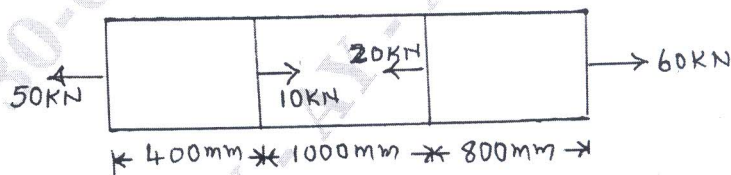

Fig.Q.1(c)
- c. A bar of uniform cross-section 20mm diameter is subjected to a load as shown in Fig.Q.1(c). Find the total elongation of the bar and maximum stress in the bar. Given  $E = 200\text{GPa}$ . (10 Marks)